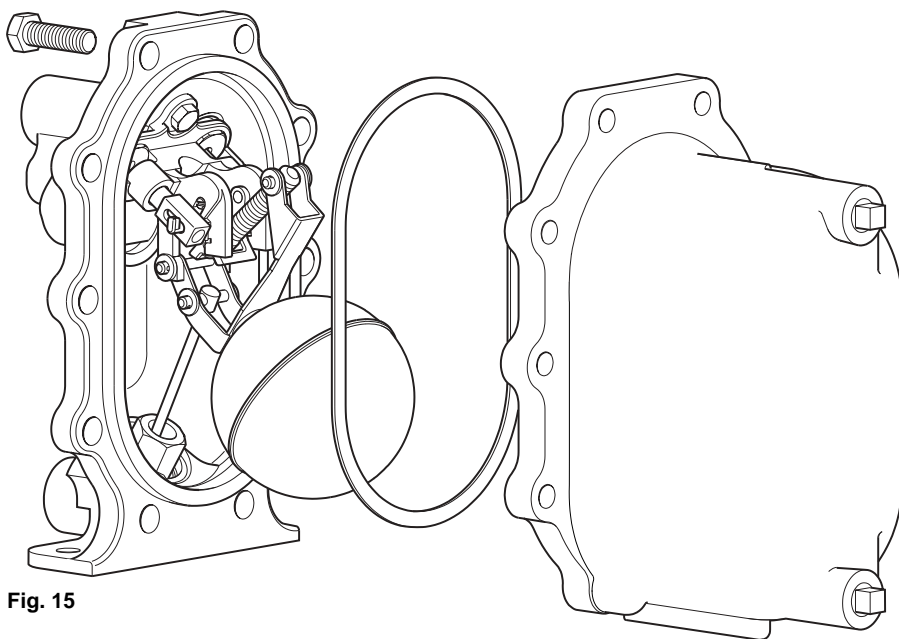

Fig. 15
1. Disconnect all connections to the cover. Remove the cover bolts using a 19 mm A/F socket, then carefully slide the cover assembly away from the body (225 mm minimum withdrawal distance will be needed). Lift the cover assembly to a bench or other convenient working surface and clamp securely, avoiding contact with the gasket face (See Fig. 15).